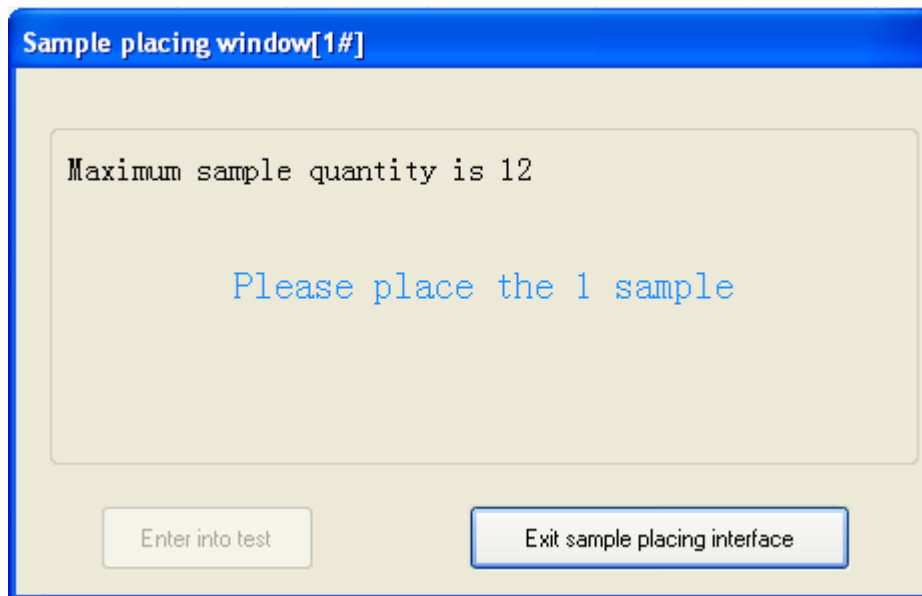

Fig. 4-3-11
- 1. Start test:** click this menu or shortcut icon of shortcut icon bar, the system open sample placing window to prompt user to place sample. Shown in Fig. 4-3-11: